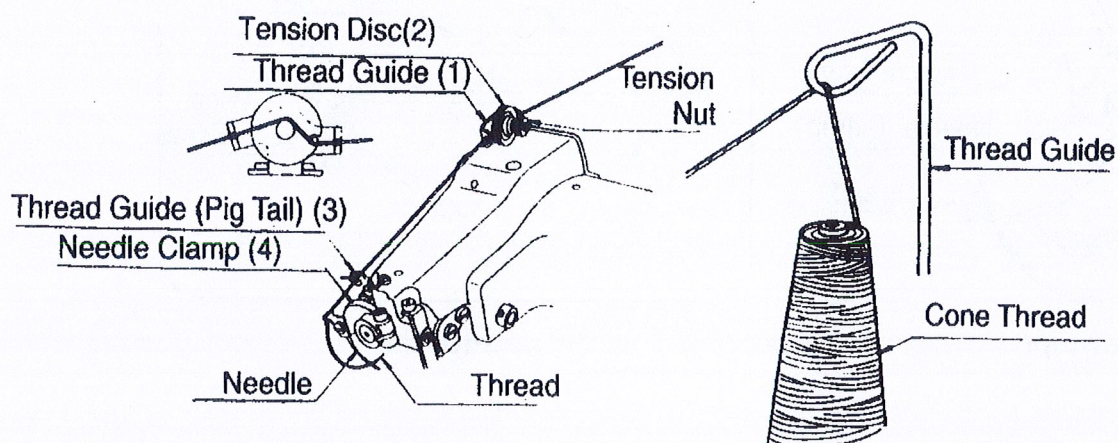

Fig.9
A. When using sewing thread from a cone, place it over plastic cup on thread stand (Fig.9)
C. For correct threading of machine, follow carefully course of thread as shown on Fig.9.
When reaching to thread tension device, enter thread first in rear eye of thread guide (1). Then, lead thread between the two tension discs (2) as per Fig.9. Now enter it from behind through the front eye of thread guide. Lead thread forward to front of machine. Enter thread from above into thread guide (3), and eyelet of needle clamp (4).